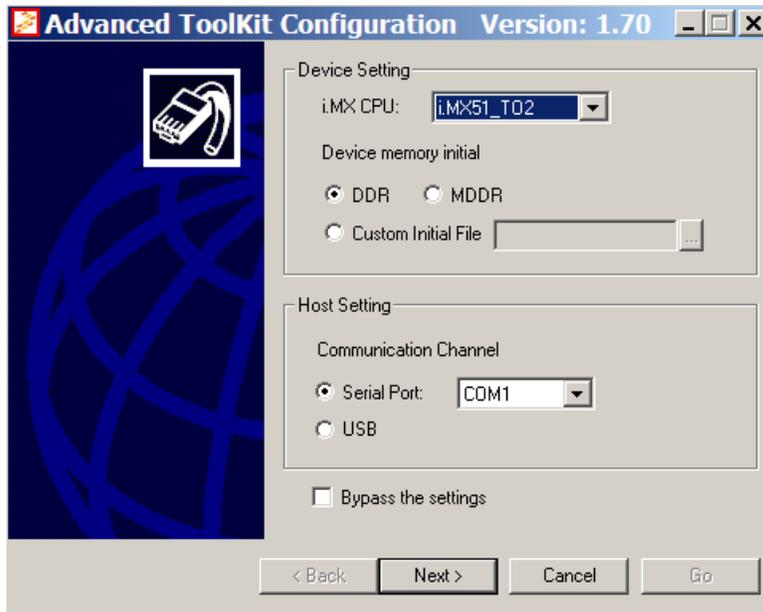

Figure 5-1 ATK configuration for i.MX51
2. Power on the board. Configure the ATK options as shown in Figure 5-1.